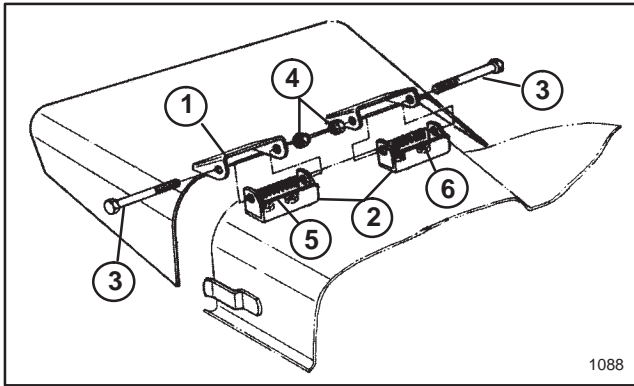

Figure 17
1. Remove bolts, lock nuts and springs securing deflector mounts to pivot bracket (Fig. 17).
2. To remove pivot brackets, remove carriage bolts and nuts (Fig. 17).